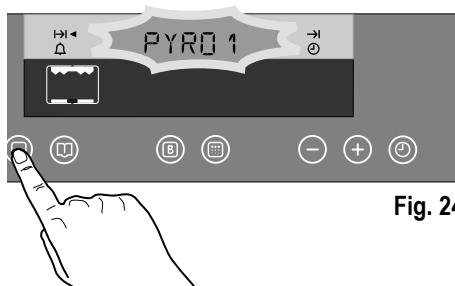

Fig. 24
2. Touch control  as often as necessary, until the "Pyro" function symbol  (PYRO 1-level 1) will appear on the display (Fig. 24).